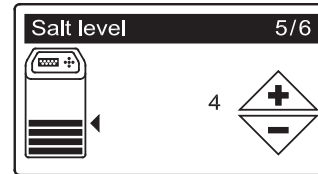

FIG. 12
- 9. SALT LEVEL** Press the UP (▲) or DOWN (▼) buttons to set the salt level (See Figure 12). It should match the lowest number visible on the brinewell decal above the salt.